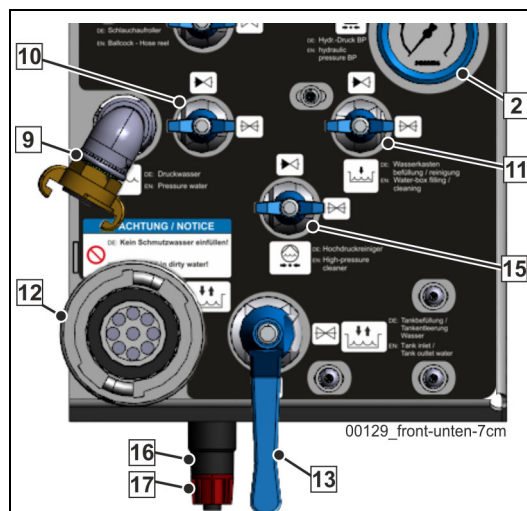

Fig. 436 Supply control
- Loosen the fuse (5.1) **(6.2.10)** on the water case and lock the connection to the water case by switching the ball valve (5) **(6.2.10)**.
- Open the ball valve (15) **(Fig. 436)** and the turn-lock fastener (17) **(Fig. 436)** on the supply unit.
- After draining the pump, close the ball valve (15) (**Fig. 436**) and the turn-lock fastener (17) (**Fig. 436**) on the supply unit.
- Before restarting the HPC, do not forget to switch the ball valve (5) (**6.2.10**) on the water case to the “Operating position”.